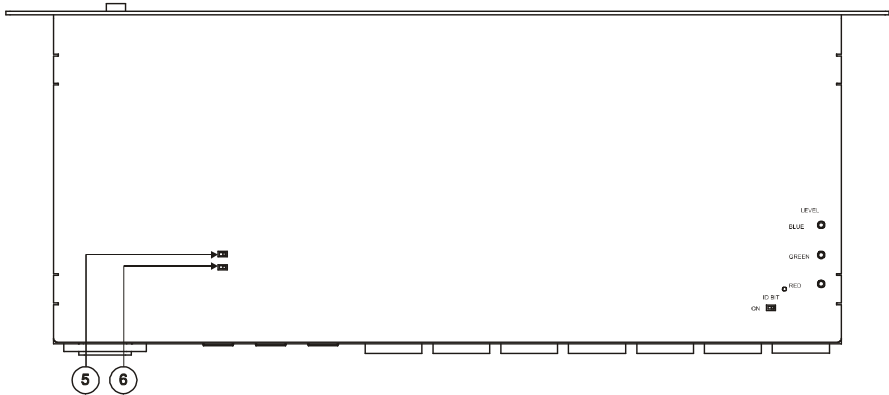
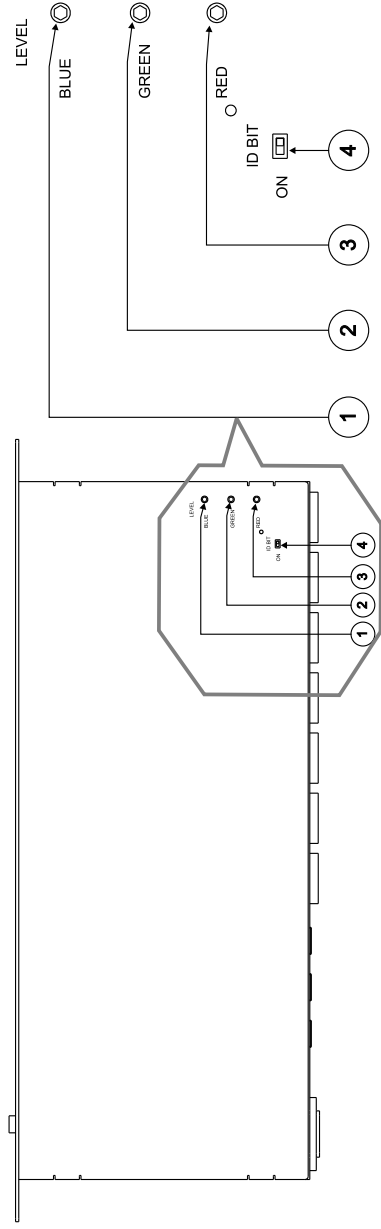

Figure 1A: Underside of the VP-12N 1:12 + 3 UXGA / CAT5 Distributor (HD Version)
Figure 2: Underside of the VP-12N 1:12 + 3 UXGA / CAT5 Distributor
Figure 2 on page 3 is replaced by Figure 1A
- Underside panel (see Figure 2 and Table 2)